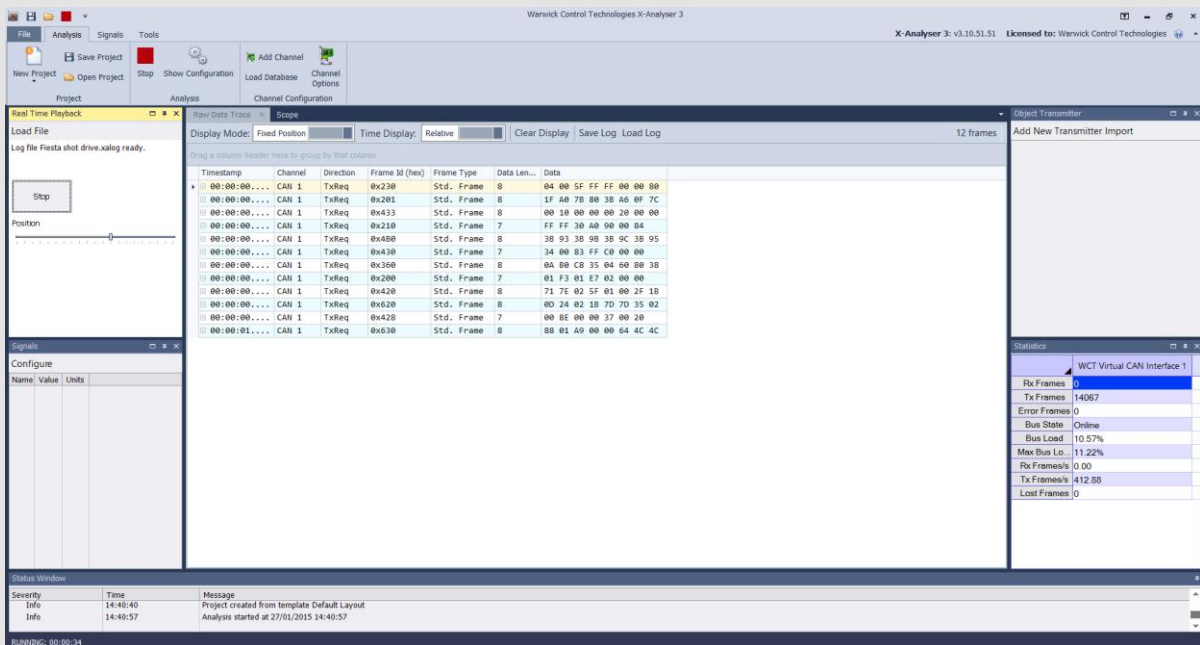
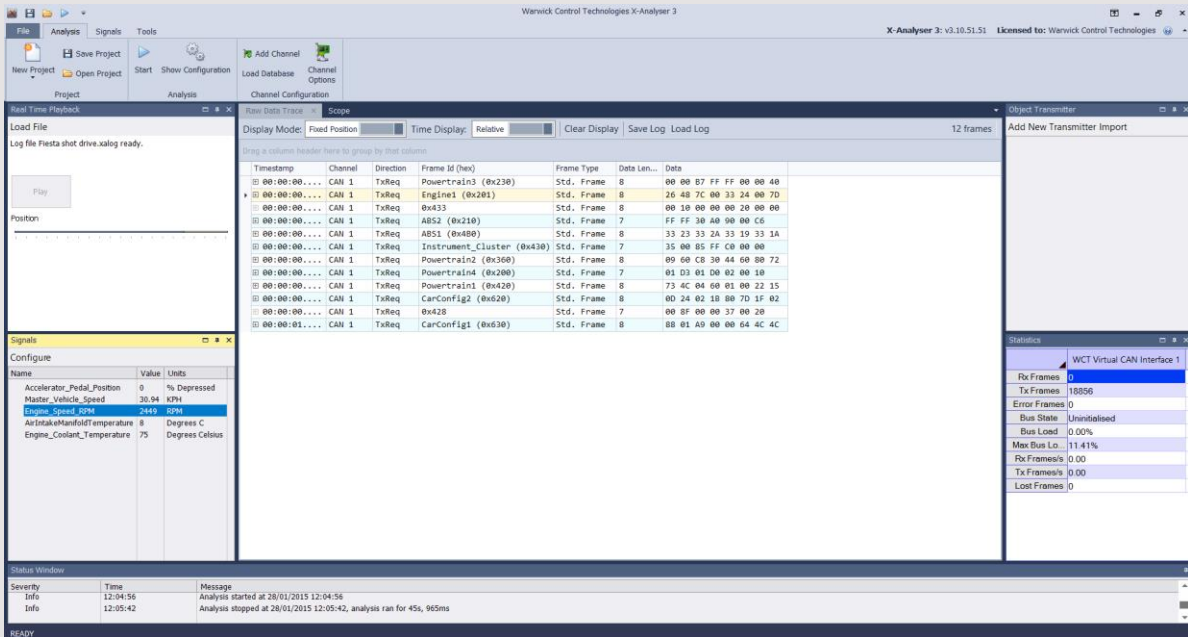

Figure 1. CAN analyser raw data display
Figure 5. CAN analyser raw data display, showing Message names.
In the last article, we explained the content of the CAN frame, and showed how to visualise it on a PC based analysis tool. The CAN frame consists of the Identifier (ID), Control (Data Length), Data (up to 8 Bytes) and error checking (CRC) portion. As shown in Figure 1, this can be displayed in an analyser where can see this information on the CAN bus. Now the question is – what is this telling us?
Once the data is allocated to an ECU, the ECU then processes it according to the specifications of this particular vehicle model. Going back to our CAN analyser, we can load a CAN Signal Database into the analyser to interpret that CAN ID and raw data seen in Figure 1. In Figure 5, it can be seen that once a CAN Signal Database file is loaded, the CAN IDs can be displayed by their allocated message name, e.g. Engine1, Powertrain2, ABS1, etc. The display still shows the raw data, so the next step is to go to a Signals display to show how the raw data is processed to give engineering values.
In Figure 5 the Signals display on the left of the analyser display shows the engineering values of the CAN data after it has been processed via the CAN Signal Database. Here we show several Signals selected in a configuration process. Once a CAN Signal Database file is loaded into the X-Analyser, you can select relevant signals to display.